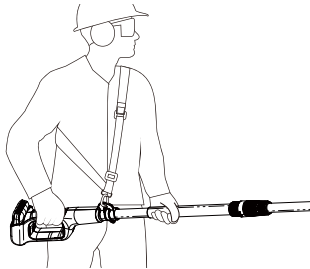

Fig. 21
- **Adjust the shoulder strap length so that the clip is about the same height as the hip (Fig. 21).**